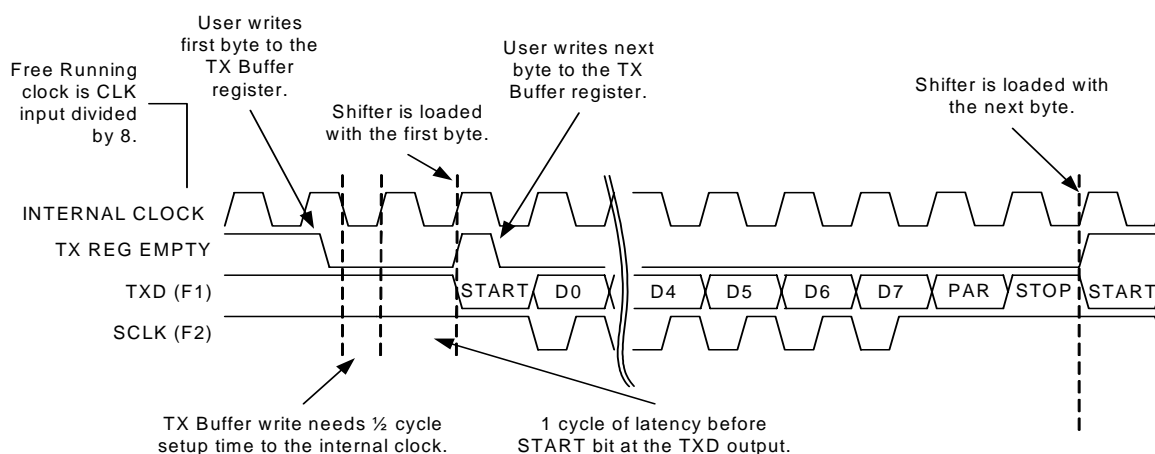

Figure 17-23. Typical Transmitter Timing
**Transmit Operation.** Transmission is initiated with a write to the TX Buffer register (DR1). The CPU write to this register is required to have one-half bit clock setup time for the data to be recognized at the next positive internal bit clock edge. As shown in Figure 17-23, once the setup time is met, there is one clock of latency until the data is loaded into the shifter and the START bit is generated to the TXD (primary) output.